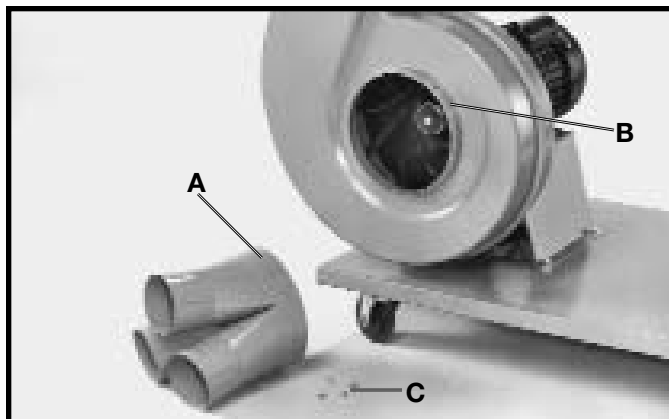
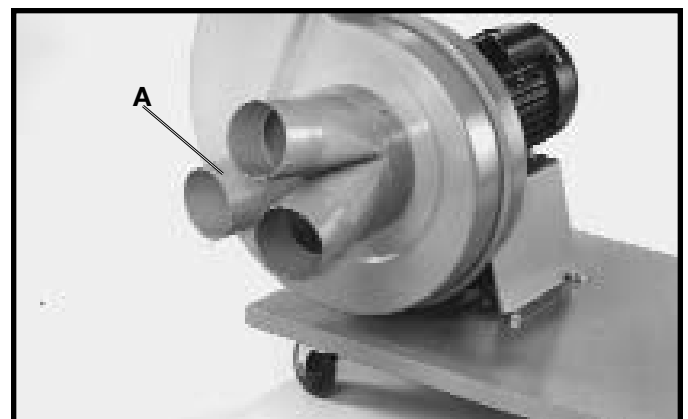

Fig. 23
Fig. 24
2. Align the four holes in the dust intake port (A) Fig. 23, with the mounting holes in the lip of flange (B) of blower assembly, and fasten with four sheet metal screws (C). Fig. 24, illustrates the dust intake ports (A) assembled to the blower assembly.